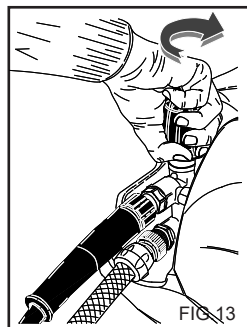

FIG.13
This chapter concerns only those models provided with the "pressure regulating" device. The pressure regulator, fig. 13, allows the operator to adjust the working pressure. When knob C is turned in an anti-clockwise direction (B) (minimum), the working pressure is reduced.